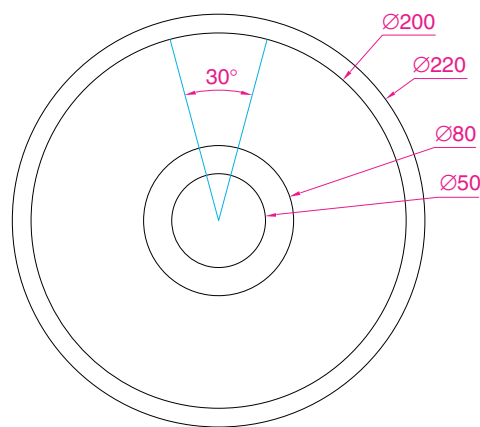
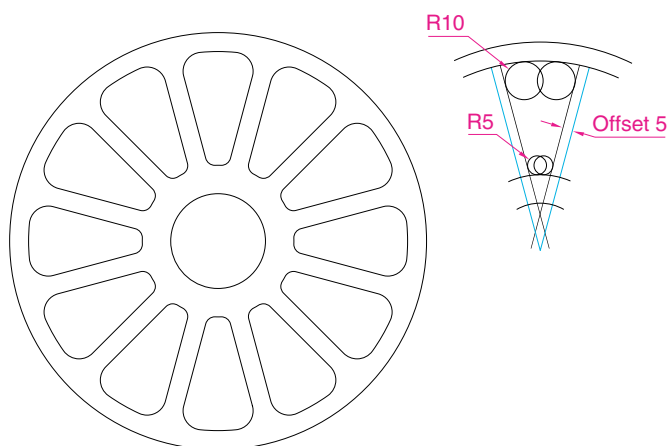

Fig. 5.49 Exercise 4 – circles and lines on which the exercise is based
Fig. 5.50 Exercise 4
4. Construct the circles and lines shown in Fig. 5.49. Using **Offset** and the **Ttr** prompt of the **Circle** tool, followed by **Trim**, construct one of the outlines arrayed within the outer circle. Then with **Polyline Edit** change the lines and arcs into a pline of width=0.3. Finally array the outline 12 times around the centre of the circles to produce Fig. 5.50.